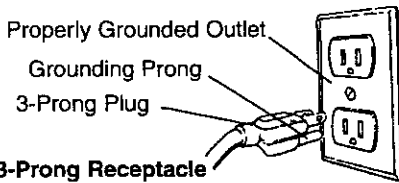

Figure 7 - 3-Prong Receptacle
Refer to Figures 7, 8 and 9, page 5.
- This tool is equipped with an approved 3-conductor cord rated at 150V and a 3-prong grounding type plug (Figure 7) for your protection against shock hazards.
- Grounding plug should be plugged directly into a properly installed and grounded 3-prong grounding-type receptacle, as shown (Figure 7).